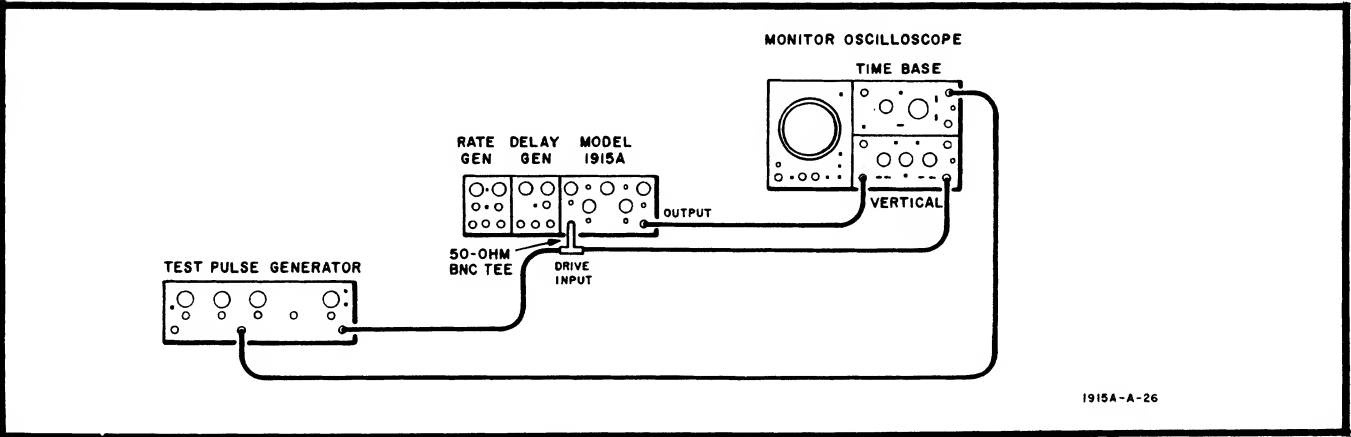

Figure 5-8. Drive Sensitivity Test Setup
a. Connect equipment as shown in Figure 5-8.